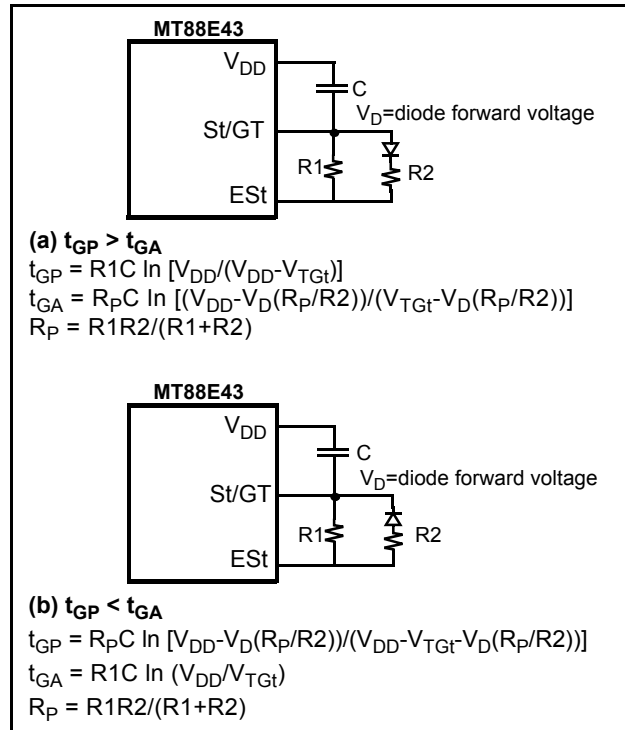
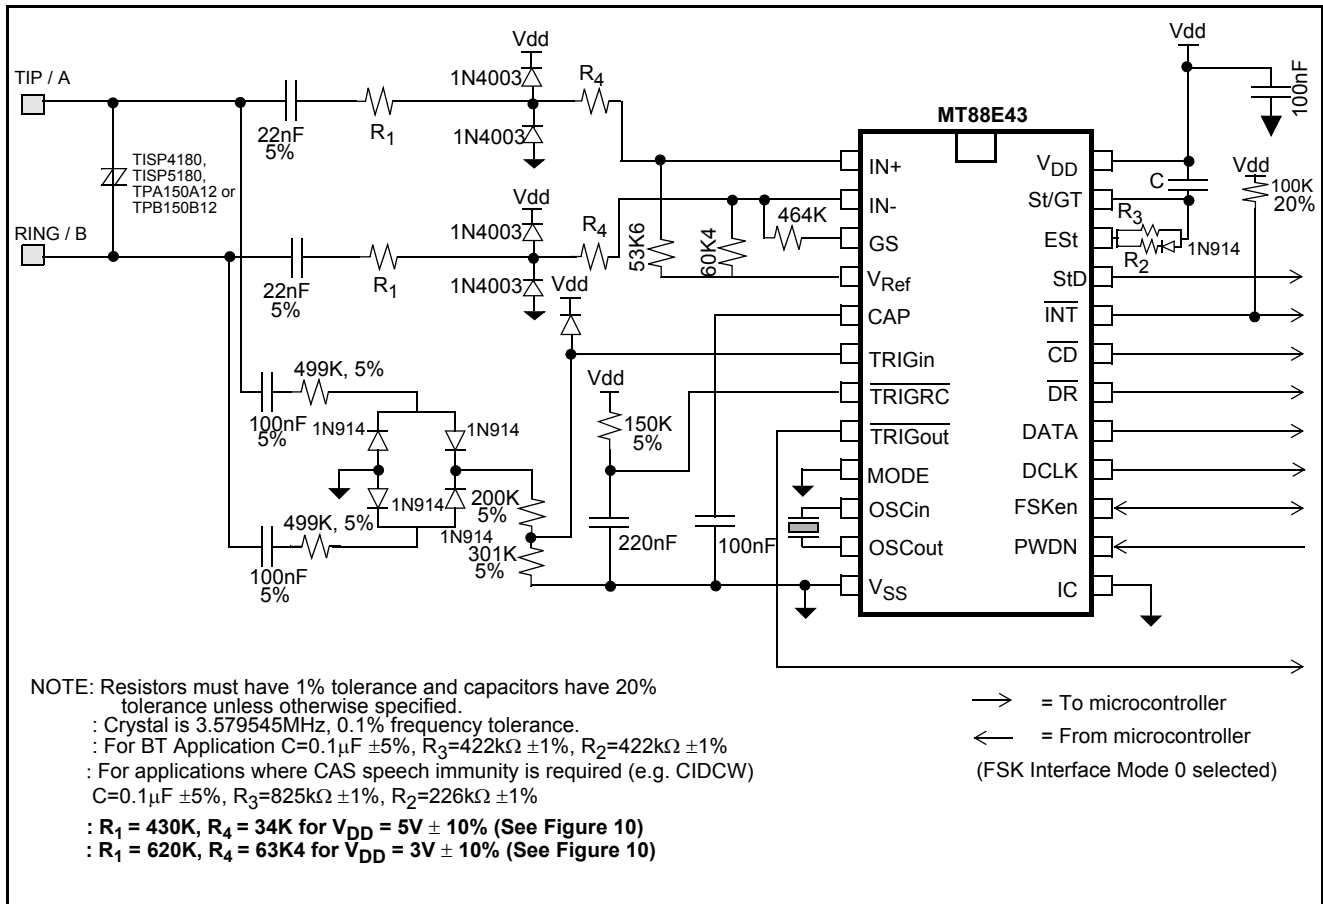
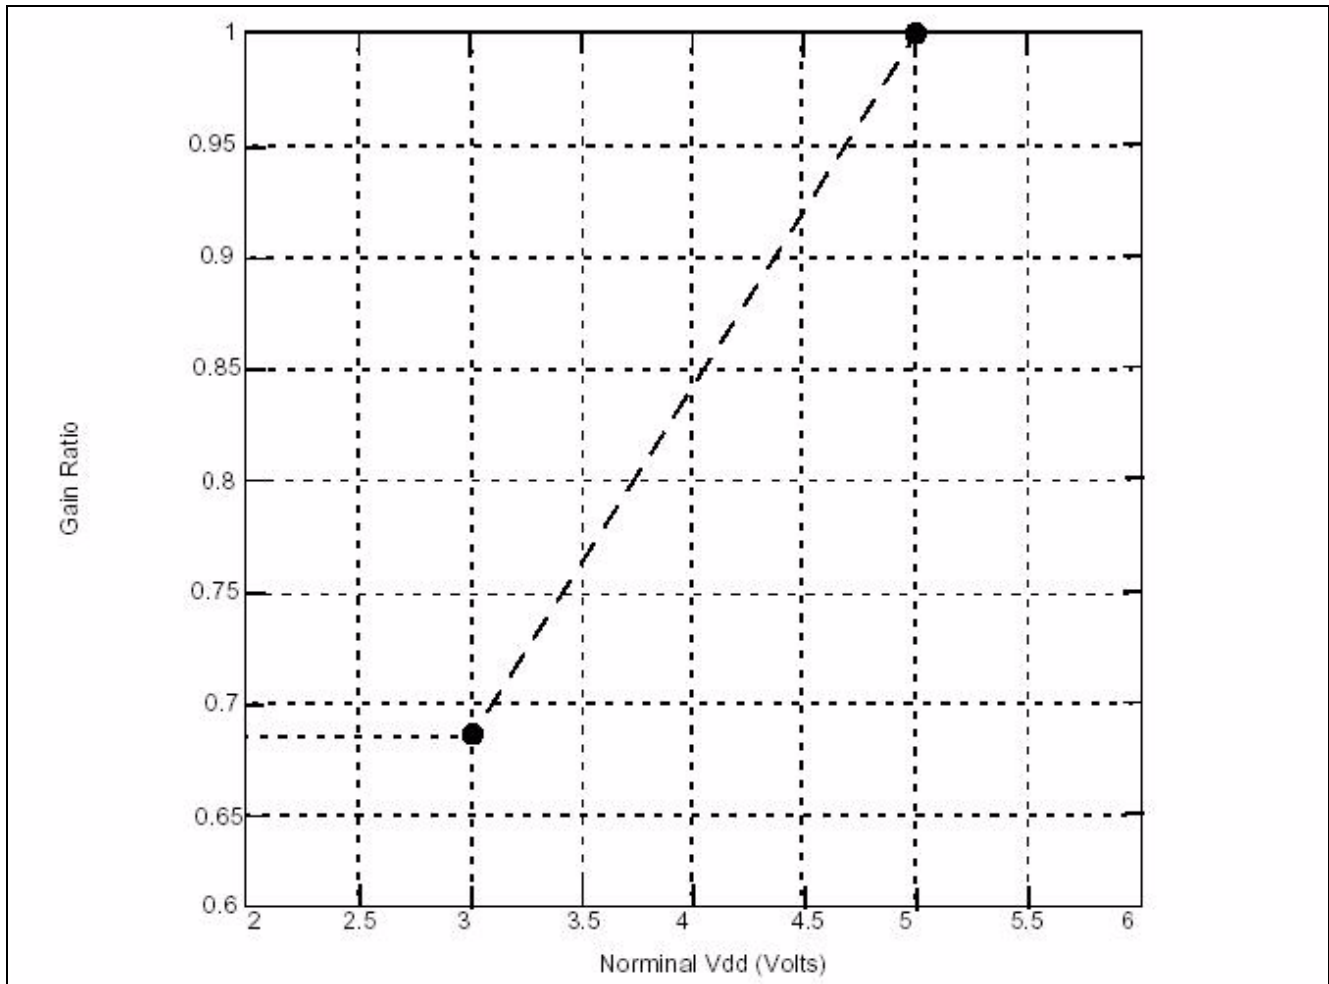

Figure 5 - Guard Time Circuits with Unequal Times
Figure 9 - Application Circuit
Figure 10 - Gain Ratio as a function of Nominal Vdd
BT specifies that the idle state tone alert signal recognition time should not be less than 20 ms when both tones are used for detection. That is, both tones must be detected together for at least 20 ms before the signal can be declared valid. This requirement can be met by setting the t_{GP} (refer to Figure 5) to at least 20 ms.
BT also specifies that the TE is required to apply a D.C. wetting pulse and an AC load 15-25 ms after the end of the alerting signal. If $t_{ABS}=t_{DA}+t_{GA}$ is 15 to 25 ms, the D.C. current wetting pulse and the A.C. load can both be applied at the falling edge of StD. The maximum t_{DA} is 8ms so t_{GA} should be 15-17 ms. Therefore, t_{GP} must be greater than t_{GA} . Figure 5(a) shows a possible implementation. The values in Figures 9 and 11 ($R2=R3=422K$, $C=0.1\mu F$) will meet the BT timing requirements.
The circuits shown in Figures 9 and 11 are application circuits for the MT88E43. As supply voltage (V_{DD}) is decreased, the threshold of the device's tone and FSK detectors will be reduced. Therefore, to meet the BT or Bellcore tone reject level requirements the gain of the internal opamp should be reduced according to the graph in Figure 10. For example when V_{DD}=5V (+/- 10%), R₁ should equal 430 k Ω and R₄ should equal 34 k Ω ; and if V_{DD}=3V (+/- 10%) R₁ should equal 620 k Ω and R₄ should equal 63.4 k Ω . Resistors R₁ and R₄ are shown in Figures 9 and 11.
The circuit shown in Figure 9 illustrates the use of the MT88E43 in a proprietary system that doesn't need to meet FCC, DOC, and UL approvals. It should be noted that if glitches on the tip/ring interface are of sufficient amplitude, the circuit will falsely detect these signals as ringing or line reversal.
Note: In the application circuits shown in Figures 9 and 11, the Gain Ratio of MT88E43 opamp is
- With gain setting as shown in Figure 10. Production tested at 3V ±10%, 5V ±10%.